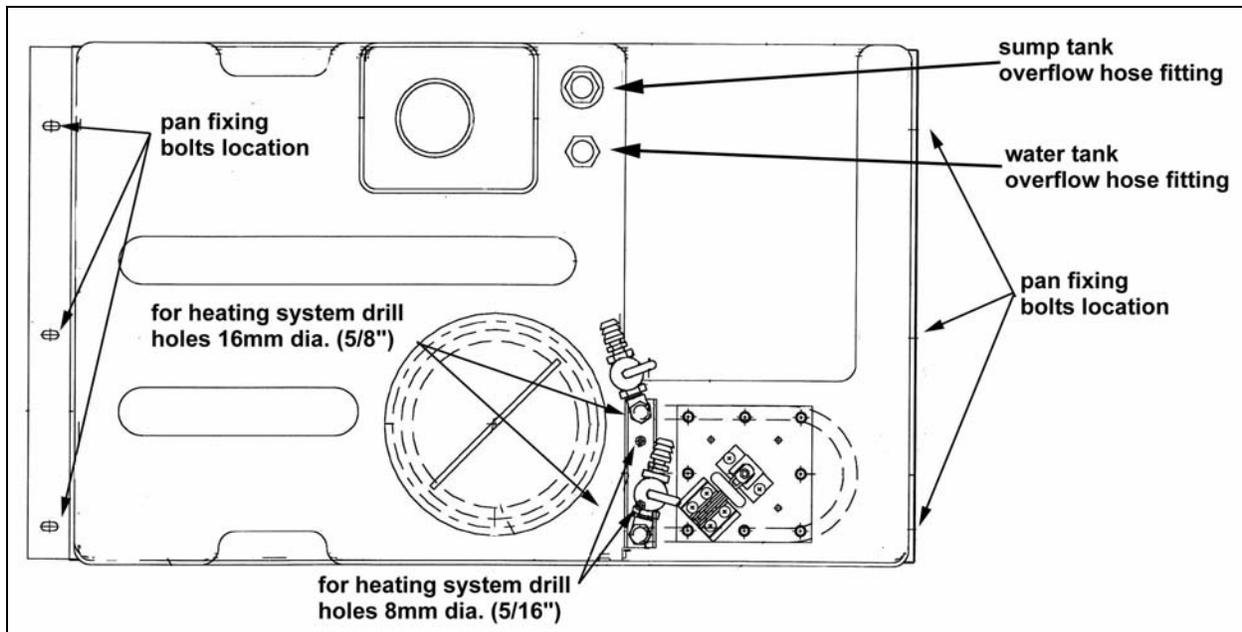

FIGURE 10 : TOP VIEW OF THE AUXILIARY SUMP TANK
12. Unscrew the 6 bolts on the auxiliary sump tank pan (figure 10) and remove the pan from underneath the vehicle.
16. For sump tank equipped with the heating system, drill holes on the new sump tank for the heating coil installation. Use the alignment marks and drill 2 holes $\varnothing 8\text{mm}(5/16\text{'})$ and 2 holes $\varnothing 16\text{mm}(5/8\text{'})$ (figure 10).